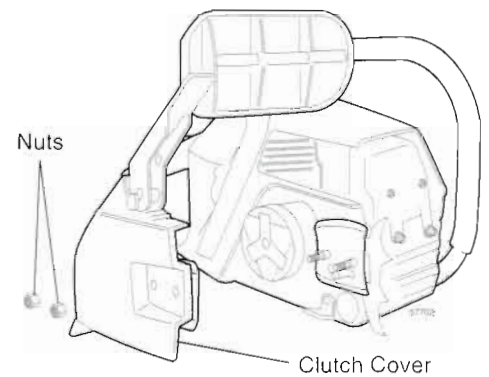

Figure 6.4 Remove the Clutch Cover
STEP 2. Remove the clutch cover nut(s) in a counter-clockwise direction, and then remove the clutch cover (Figure 6.4).